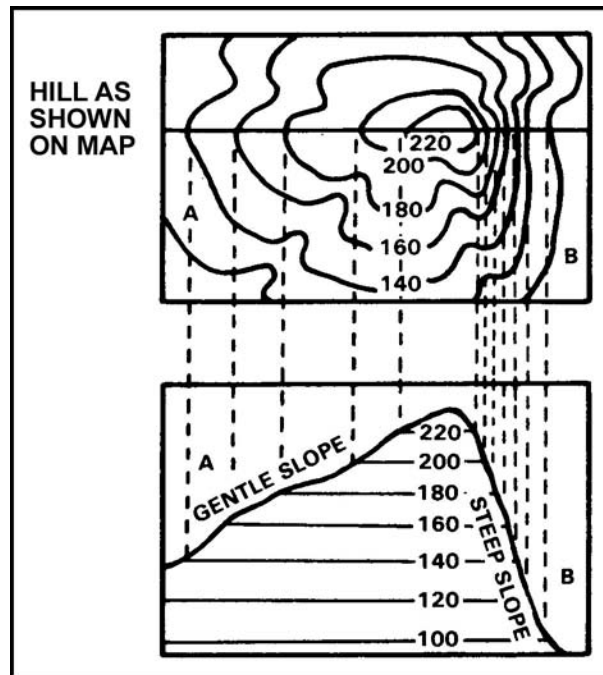

Figure 071-329-1004-3. Slope
- d. Widely spaced contour lines at the top of a hill show a flat hilltop. Close lines indicate a pointed hill (figure 071-329-1004-4).